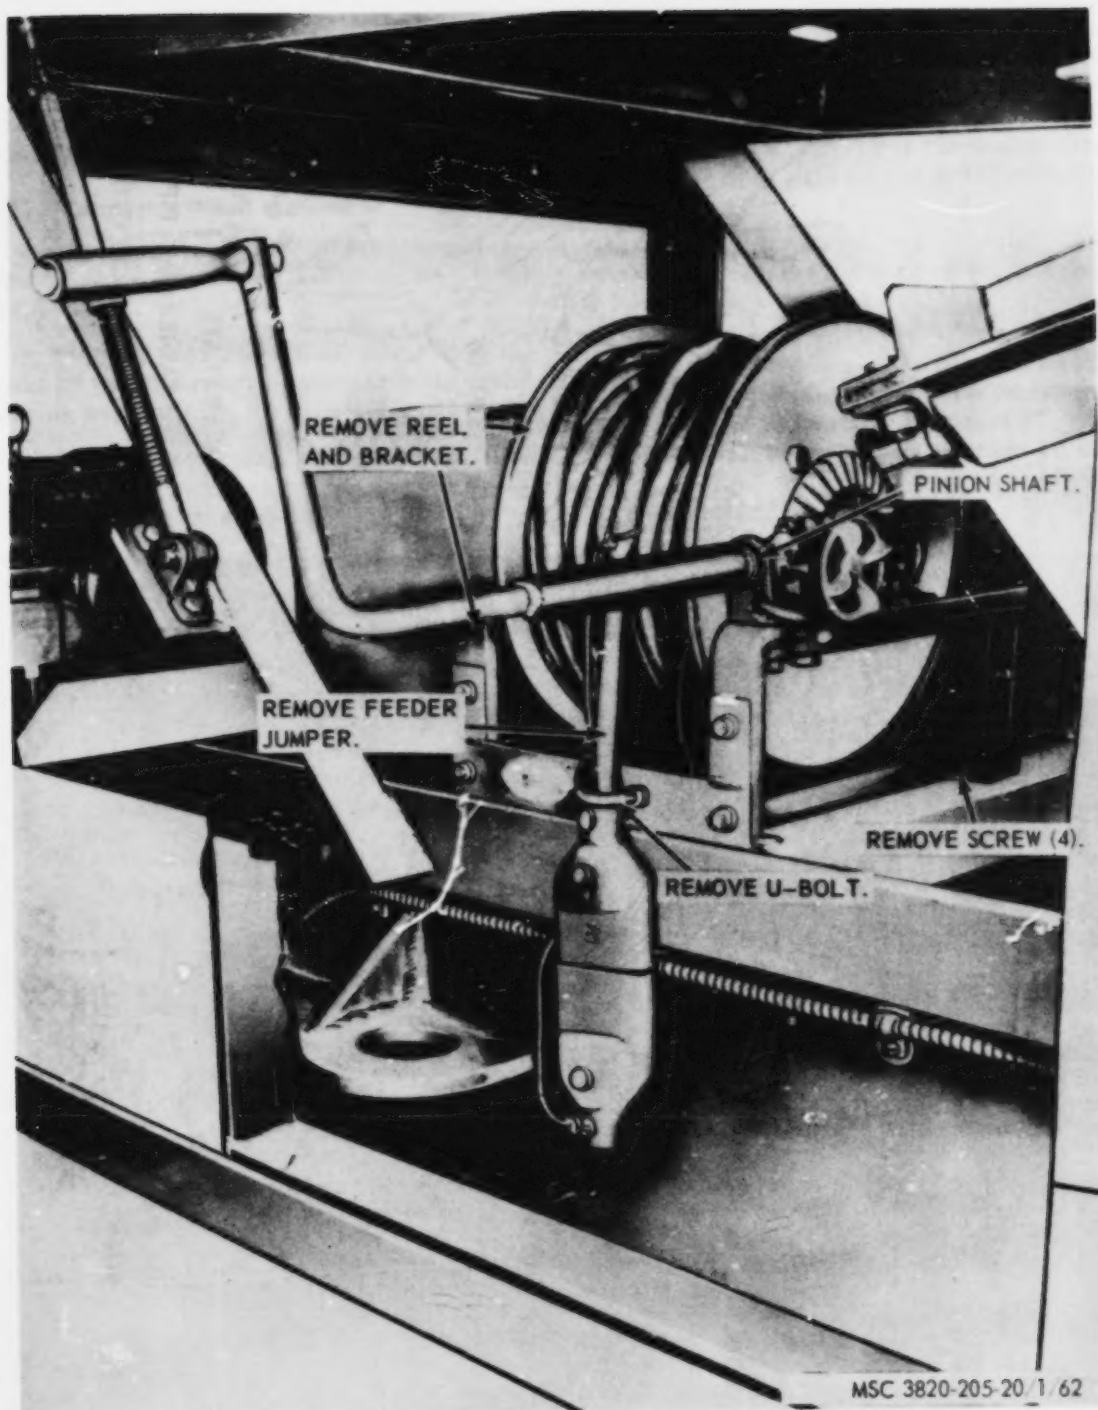

Figure 62. Feeder jumper reel and bracket assembly, removal and installation.
and bracket from the unit as instructed on figure 62.
e. Installation. Install the feeder jumper reel and bracket assembly in reverse of the instructions on figure 62.